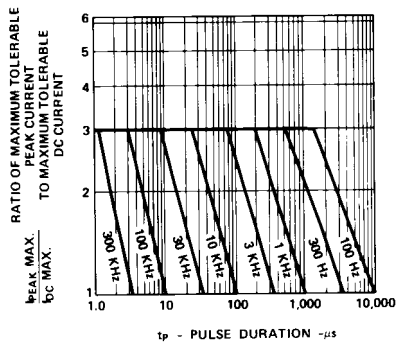

Figure 5. Maximum Tolerable Peak Current vs. Pulse Duration. ($I_{DC\ MAX}$ as per MAX Ratings).
1. See Figure 5 (HER/Orange), 10 (Yellow), or 15 (Green/Emerald Green) to establish pulsed operating conditions.